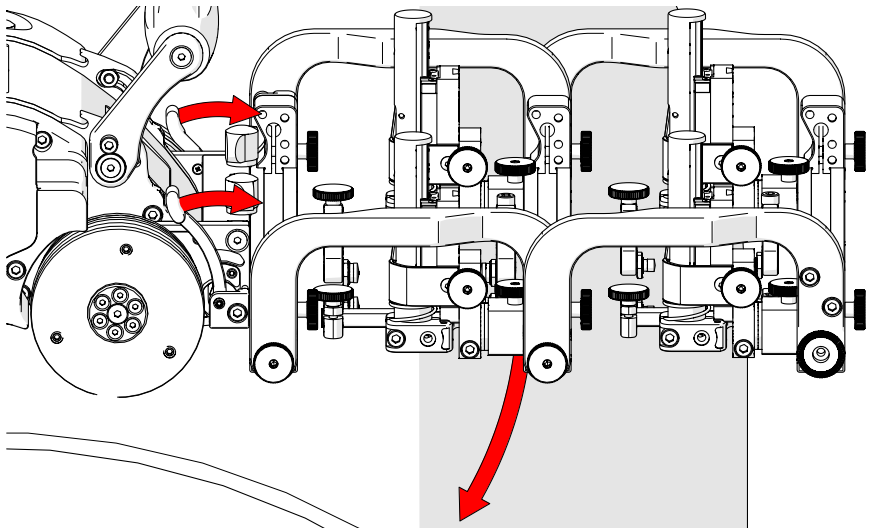
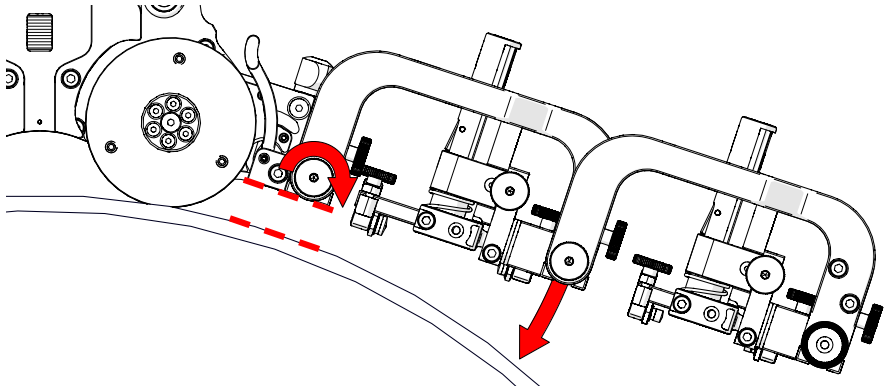

Fig. 182 - Align swivel mount with scan surface
Fig. 183 - Set rear rotational adjustment knob
3. Mount the probe holder frame to the crawler (see *Cable Retainer* on page 49 for additional details). When mounting the probe holder frame, ensure the attachment knobs (Fig. 182) are at the front (non-crawler side).
4. Release the two swivel mount levers (*Fig. 182*) to position the swivel mount parallel to the scan surface (*Fig. 183*). When alignment with the scan surface is achieved, lock the crawler swivel mount levers.
5. Loosen the rear rotational adjustment knob to lower the weld scan frame towards the inspection surface (*Fig. 183*).